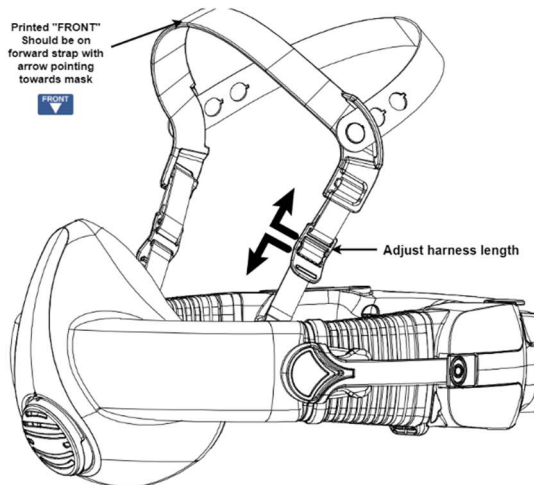

Figure 8 – Harness Fitting and Adjusting
- To move the mask up, tighten the elastic straps by sliding the cleat down the strap as shown in Figure 8.